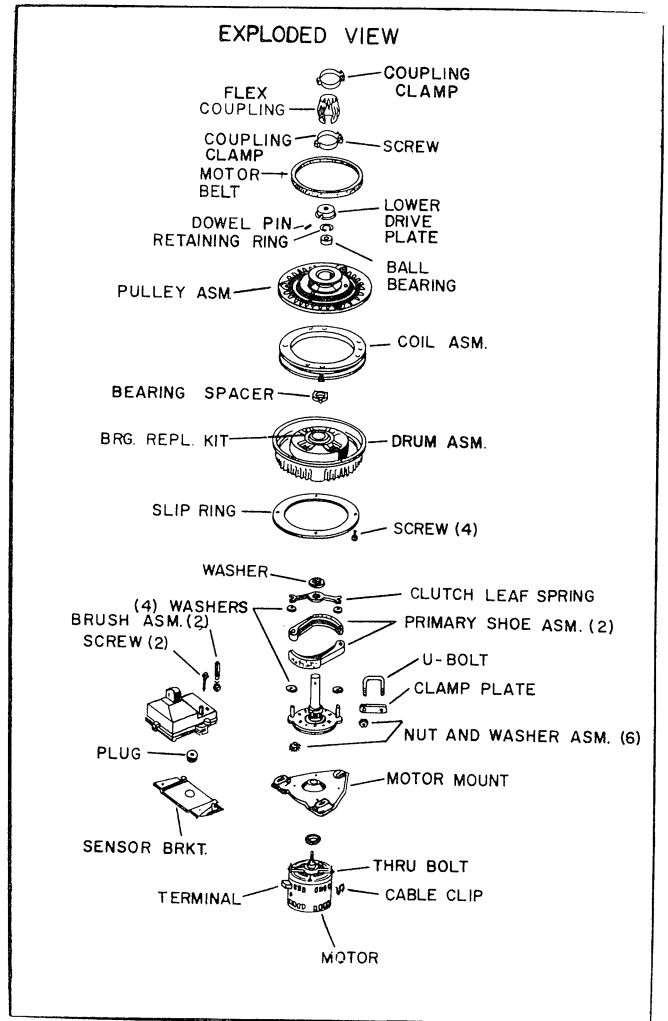

Figure 139
- c. Sensor assembly – this component is mounted on the bracket adjacent to the magnetic clutch, see *Figure 139*.